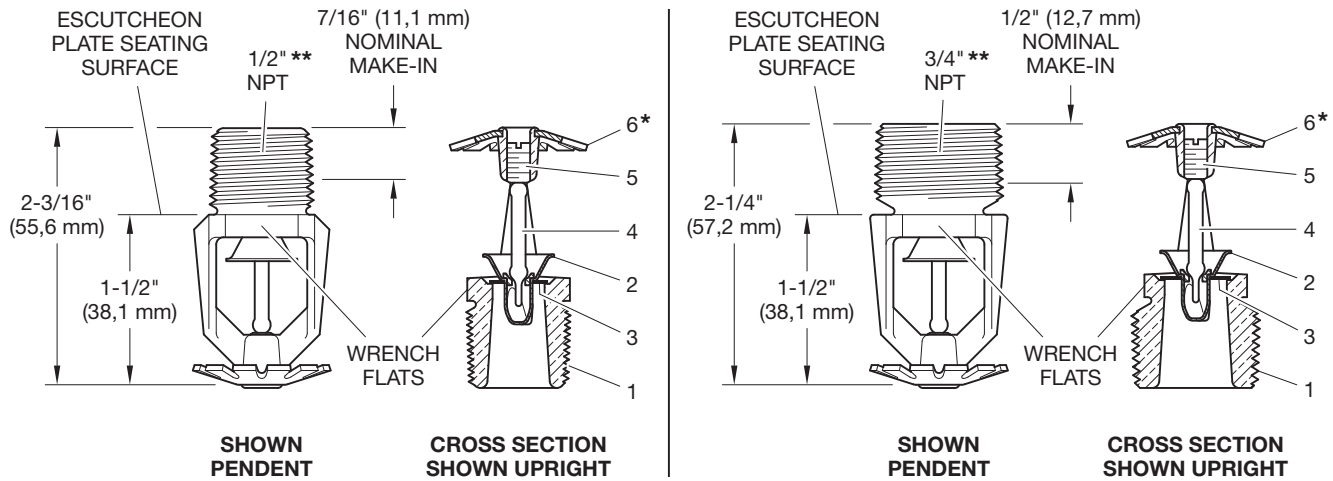
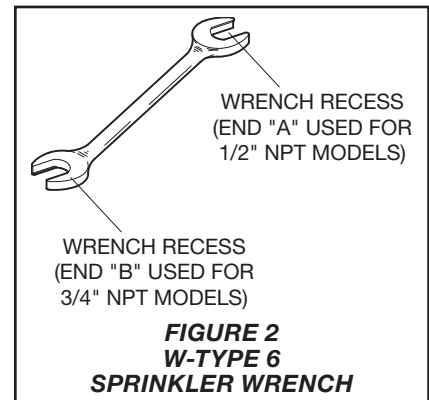

FIGURE 1
FIGURE 2
Step 2. Tighten the sprinkler into the sprinkler fitting using only the W-Type 6 Sprinkler Wrench (See. Figure 2). With reference to Figure 1, the W-Type 6 Sprinkler Wrench is to be applied to the Wrench Flats.